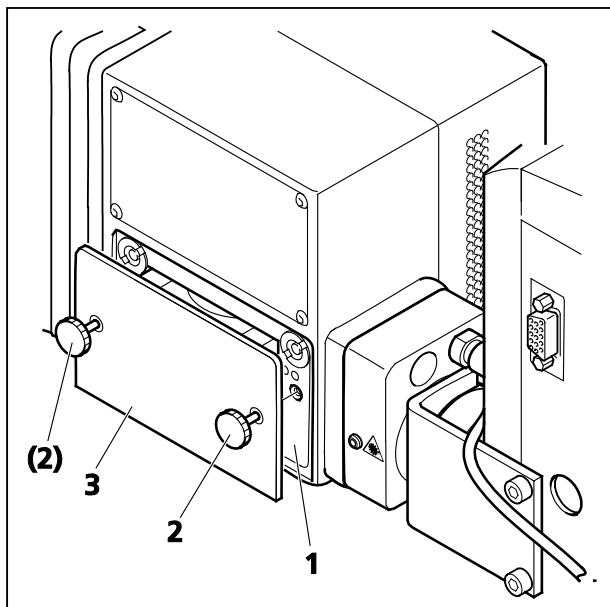

Fig. 17 Filter insert of the BiG.2
- Loosen the two knurled screws (Fig. 17/2).
- Remove the filter insert (Fig. 17/3) of the BiG.2 (Fig. 17/1) and put it down.
- After exchanging the filter module, replace the filter insert (Fig. 17/3) into the BiG.2 (Fig. 17/1).
- Fasten the two knurled screws (Fig. 17/2).